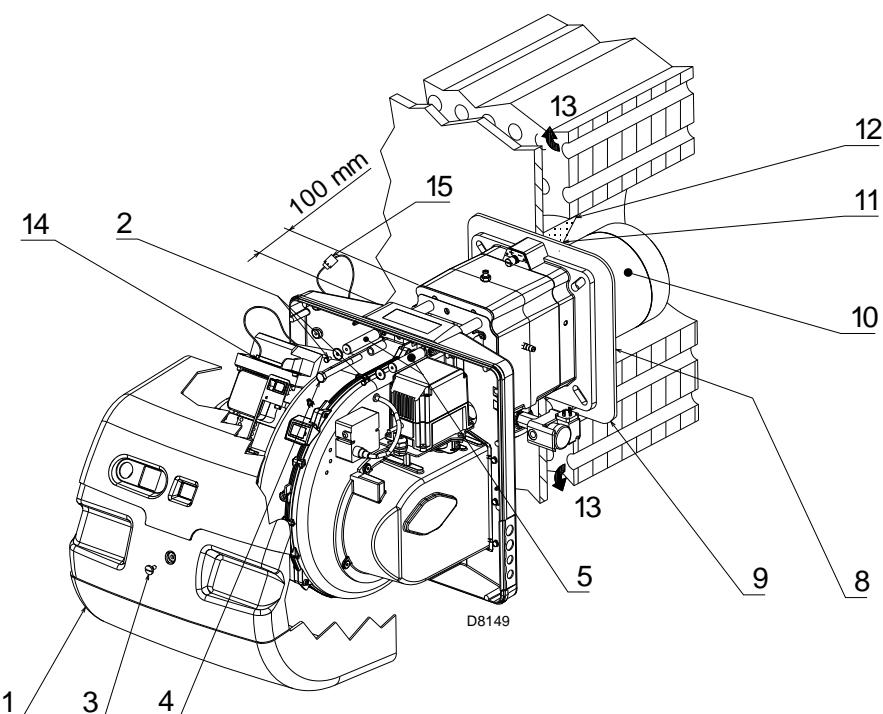
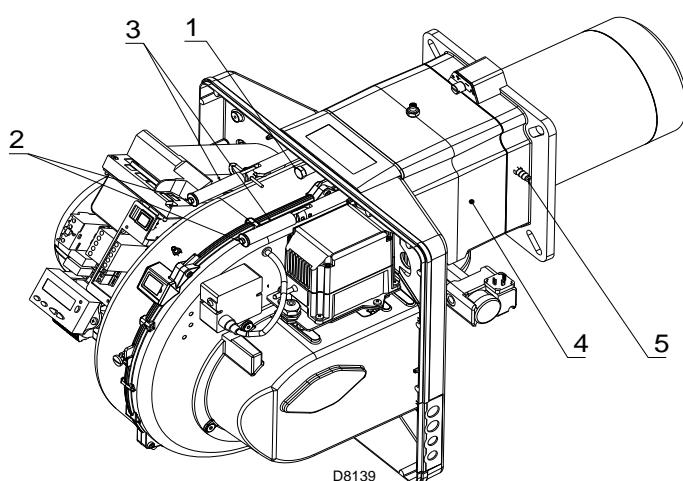

Fig. 13
Fig. 18
Separate the combustion head from the rest of the burner, (Fig. 13). To do this, proceed as follows:
For boilers with front flue passes 13)(Fig. 13), a protection in refractory material 11) must be inserted between the boiler refractory 12) and the blast tube 10). This protection must not compromise the extraction of the blast tube.
- reassemble the burner on the guides 3)(Fig. 18) at about 100 mm from the pipe coupling 4) - burner in the position shown in Fig. 13 on page 19.
- Insert the probe and electrode cables, then slide the burner as far as the pipe coupling - burner in the position shown in Fig. 18;